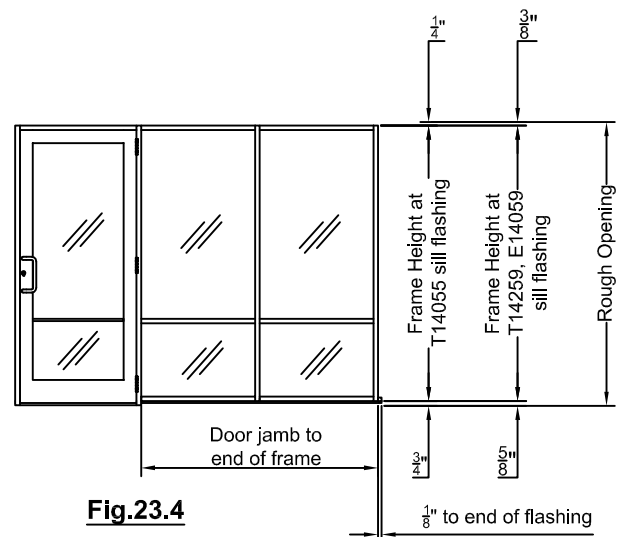

Fig.23.4
- Sill Flashing with Entrance. Door Jamb to End of Frame + $\frac{1}{8}$ " **(SEE Fig. 23.4)**
- Verticals..... **See Fig. 23.4**
- Closure Pockets at Verticals..... **See Fig. 23.4**